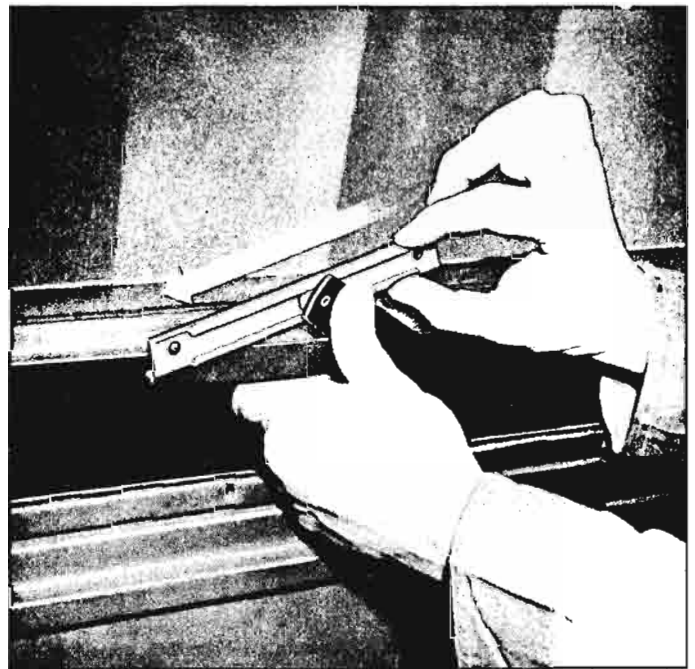

Fig. 10-50a—Removing Regulator Arm from Guide Rail
6. Remove nuts and washers from guide rail while holding sash from dropping. Slide guide rail off of regulator arm as shown in Figure 10-50a.
4. With one hand hold window assembly, then with the other install guide rail to regulator arm as shown in Figure 10-50a.
4. Install window assembly and engage regulator idler arm into arm guide rail (fig. 10-50a).